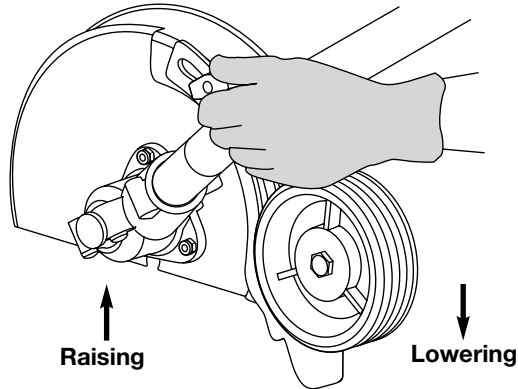

Fig. 14
1. Loosen the adjustment knob above the wheel (Fig 14).